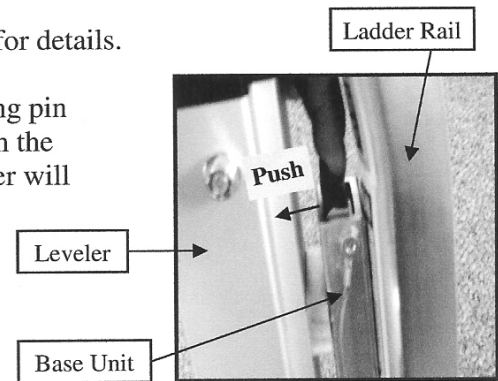

Figure 13
6. **To Remove Leveler** (Figure 13 at right) from base unit, pull ring pin out of hole. Using index finger of one hand and holding leveler with the other hand, push on release lever, located at top of base unit. Leveler will drop down and can be pulled away from the base unit.